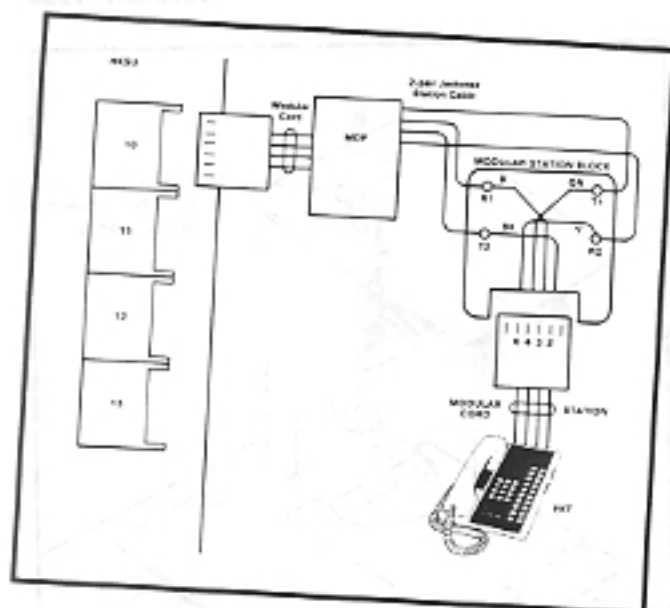

FIGURE 14—EKT WIRING
06.03 At the station locations, terminate the station cable in a conventional 4- or 6-conductor modular station connector to accommodate the modular line cord from the EKT. The standard modular EKT cord length is 7', while the maximum allowed length is 25'. Figure 14 shows the EKT wiring arrangement.